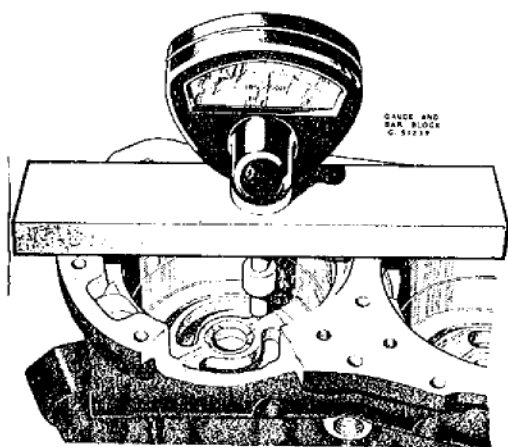

Fig. 15. Checking the parallelism of port inserts
128. Check the rotor piston bores dimensionally for size and taper with a standard dial type intercheck small bore gauge; this is illustrated in fig. 15, Chap. 3, Sect. 2.
(1) Check that the seating in the pump body is undamaged, clean and the dowel pin serviceable.
(2) Mount the pump body vertical with the rotor bores uppermost and ensure that the flange face is flat and clean. Locate the bar-block of gauge G.51239 across the flange face as shown in fig. 15 and lower the plunger of the direct reading gauge to contact the seating; from a datum reading move the block over several points to cover the area of the seating. Note that no readings must exceed the limits of the insert.
(3) If the pump body seating is satisfactory, ensure that the insert is clean and carefully lower it into position over the dowel peg, using no excess pressure. Again, mount the bar-block of gauge G.51239 across the pump body flange face and allow the plunger to contact the face of the insert, set the gauge to a datum point and check in several positions. The readings must be within the limits stated in the Schedule of Fits and Clearances.